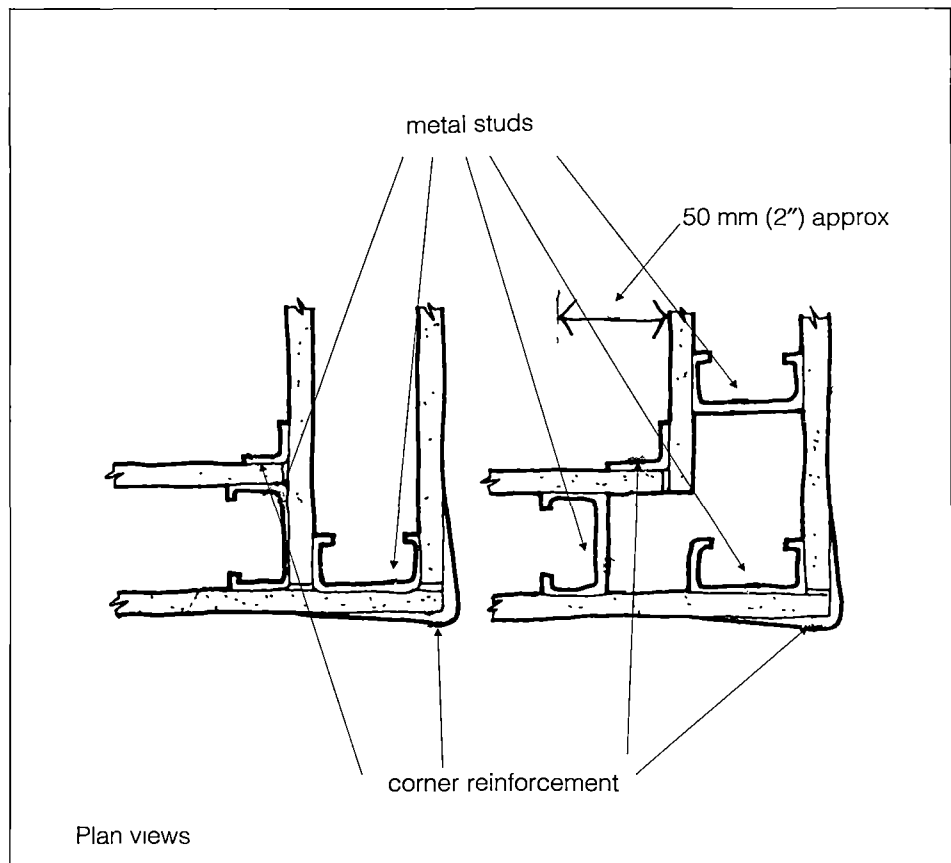

Fig 18. Interior corners with metal studs
- With metal studs, run drywall from the interior of the corners through to the outside face (fig. 18).